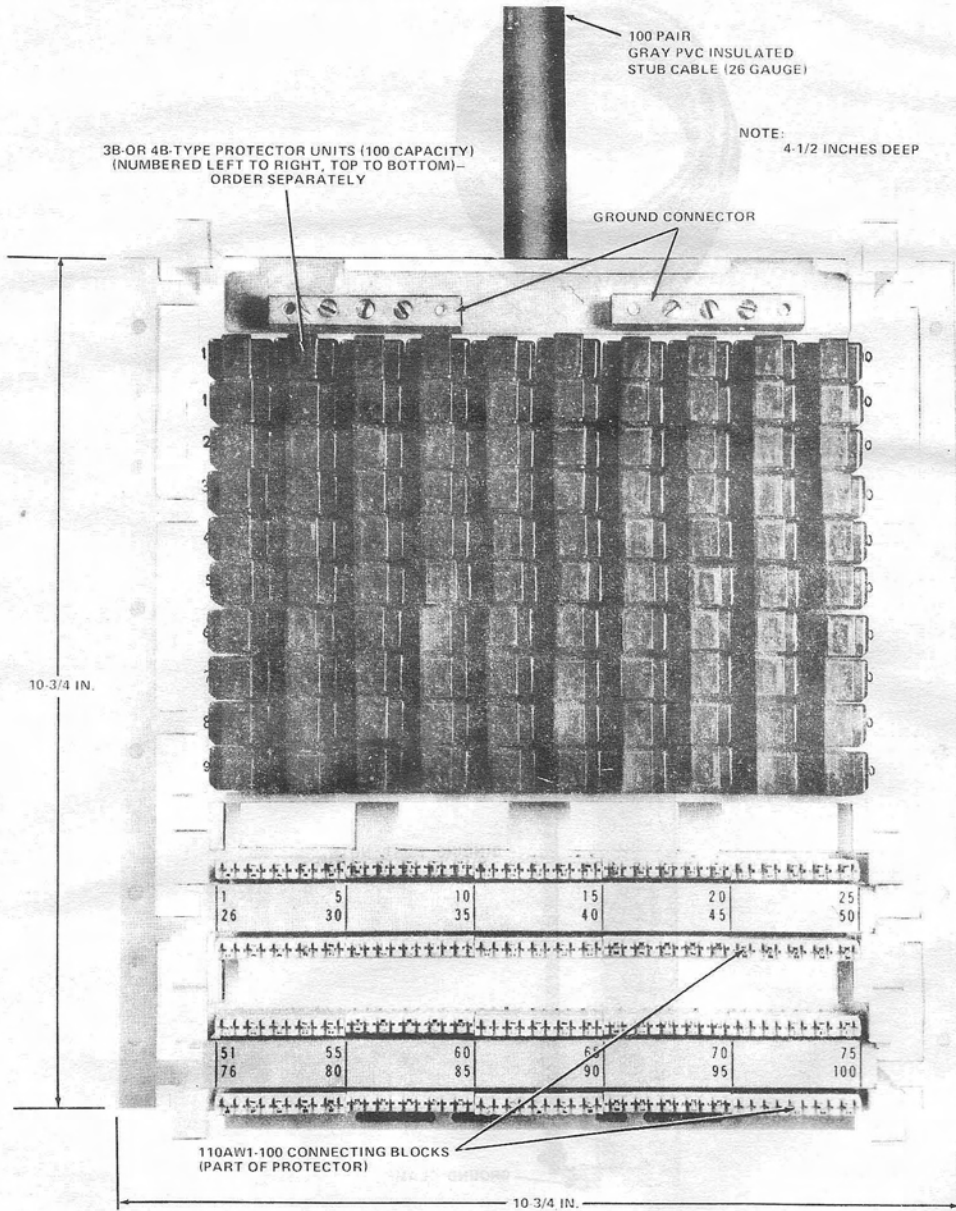

Fig. 13—188-Type Modular Protector
3.20 The 188-type modular protector (Fig. 13) is a combination protector and terminating field intended for use with the 88-type connection hardware. It provides electrical protection at building